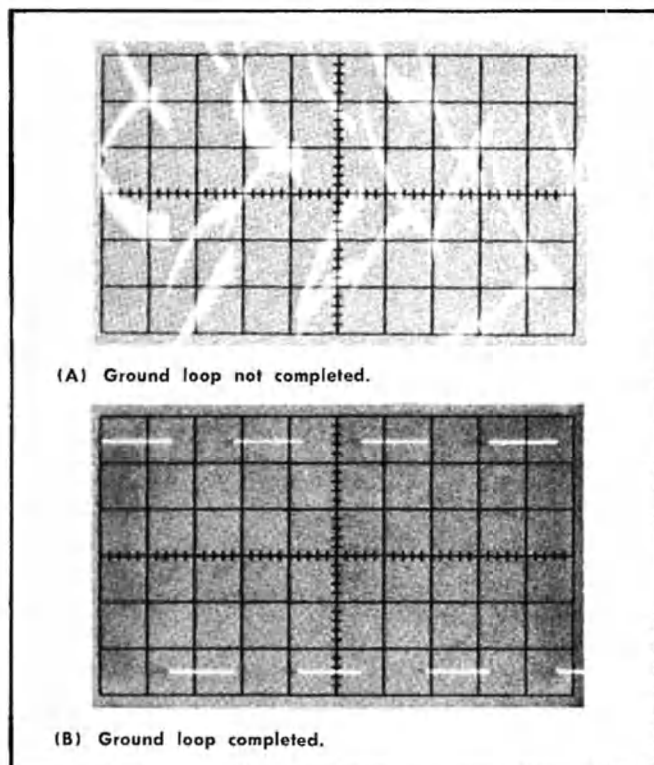

Fig. 2-11. Ground loop effect.
**Reference or ground lead.** Reliable signal observations cannot be made unless both the oscilloscope and the unit under test are connected together by a reference (ground) lead in addition to the signal lead. See Fig. 2-11. Most AC-operated equipment has a common ground supplied by the AC power source circuitry. This is true of the Type 323 Oscilloscope whenever the 3-wire AC line cord is connected to the oscilloscope and a grounded AC source. During internal battery or external DC operation, a reference (ground) lead must be externally connected between the oscilloscope and the equipment under test.